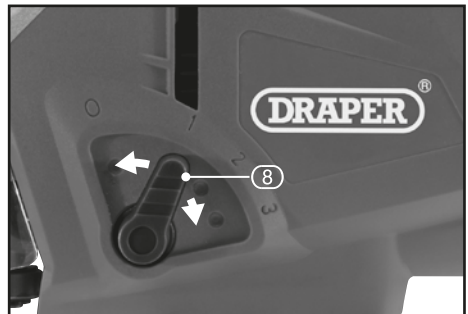

FIG.6
9.3 ORBITAL/PENDULUM ADJUSTMENT – FIG.6